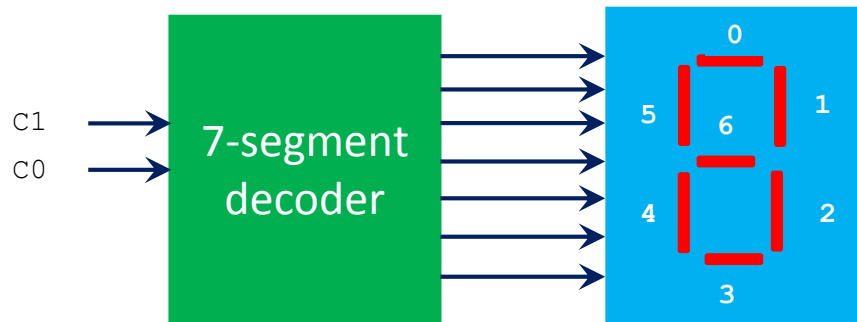

Figure 7. A two-bit wide 3-to-1 multiplexer.
The objective of this part is to display a character on a 7-segment display. The specific character displayed depends on a two-bit input. Figure 7 shows a *7-segment decoder* module that has the two-bit input `c1c0`. This decoder produces seven outputs that are used to display a character on a 7-segment display. Table 2 lists the characters that should be displayed for each valuation of `c1c0` for your DE-series board. Note that in some cases the 'blank' character is selected for code 11.
2. Create a Verilog module for the 7-segment decoder. Connect the `c1`, `c0` inputs to switches SW1-0, and connect the outputs of the decoder to the HEX0 display on the DE-series board. The segments in this display are called HEX00, HEX01, ... , HEX06, corresponding to Figure 7. You should declare the 7-bit port